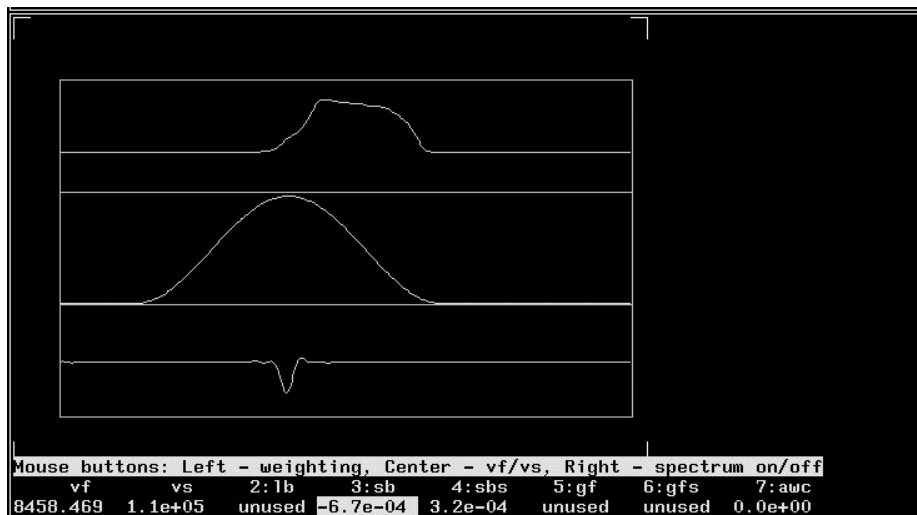

Figure 112. Setting the Weighting
- For a weighted transform, weighting is determined by the desired pixel resolution and the available signal-to-noise. To set the weighting, enter **wti** and then **wft**. **Figure 112** shows a typical display. If the center of your spin echo is left shifted, move the center of the weighting function to the same position.